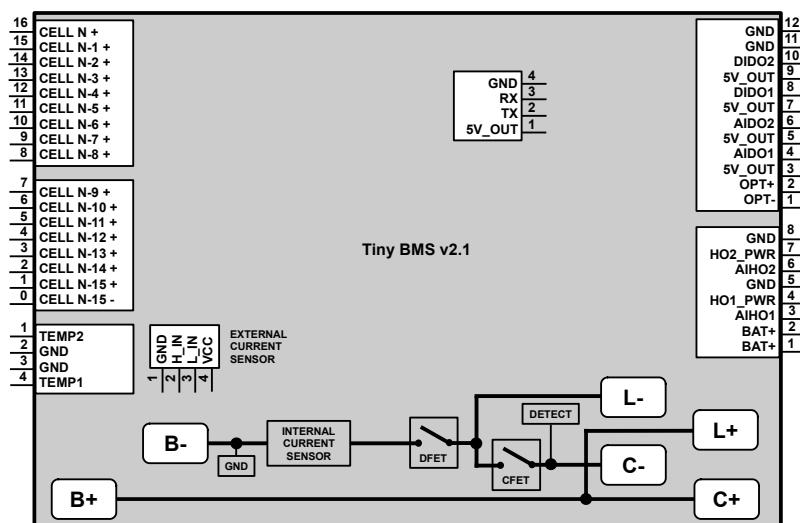

Figure 2.3: Tiny BMS v2.1 onboard connectors pinout
Tiny BMS onboard connectors and internal FET power switch wiring are shown in Figure 2.3. All connectors on the Tiny BMS board are compatible for JST PH series 2.0 mm pitch type connector or any other compatible connector.
There is a 9 pin connector ① for uppermost battery pack cells and the 8 pin connector ② for lowermost battery pack cells. Cell count starts from most lowest cell of the battery pack negative terminal (-). In Figure 2.3 cells connector numbering is shown for battery pack made of 16 in series connected cells. If less in series connected cells are needed, the lowest cell connector pins should be skipped and left unconnected. The positive terminal of the highest cell in battery pack must be connected to 16-th pin on the Tiny BMS connector Pin 16 CELL N +. Below is a formula to determine which Tiny BMS cell connector pin should be used to connect cell's positive terminals (+):
Tiny BMS has external analog / digital and hybrid input / output pins, which are multi-purpose and can be used either as inputs or outputs (Figure 2.3 Tiny BMS pinouts). Each pin can be mapped to different BMS features. External BMS I/O pins as inputs can be programmed to act as ignition switch, external charger detection input or speed measurement input from motor or other sensor. The BMS I/O pins as outputs can be programmed to control external load, charger and precharge relays / contactors or another compatible circuitry for switching of high current. These external I/O are divided into three groups: analog I/O (AIDO 1/2), digital I/O (DIDO 1/2) and hybrid I/O (AIHO 1/2). AIDO I/O's can measure analog input voltage from interval: battery minus B^- to battery plus B^+ . If AIDO I/O is configured as output, it can sink up to 250 mA current. DIDO I/O's can tolerate input voltages from interval B^- to B^+ , but logic state voltage levels are same as 3.3 V CMOS (for actual levels refer to Tiny BMS datasheet). DIDO also can sink up to 250 mA current, if configured as output. AIHO I/O's can measure input voltage from interval B^- to B^+ . If configured as output, AIHO I/O can supply up to 250 mA current from AIHO supply pin to AIHO I/O pin. AIHO may be supplied with voltages from interval B^- to B^+ . Because of AIHO supply pin, AIHO output voltage levels depends on supplied voltage on AIHO supply pin. AIHO also can sink up to 250 mA current. Table 2.4 shows which BMS features can be mapped with each BMS external I/O pin. More information about how to